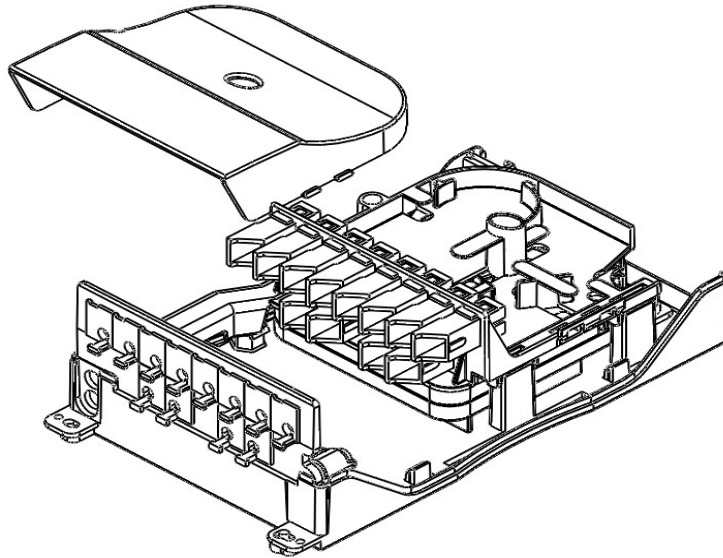
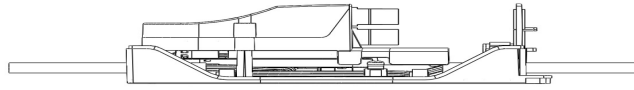

Fig. 24
Fig. 26
4.5.1. After making the necessary splices, store the splice in the splice tray, snap the splice tray in place, route both the unit tube in the base and the fibers and pigtail ends in the splice tray, then close the adapter plate cover (Fig. 24 and 25). Fasten it to the inner base using the cover captive screw (Fig. 26).